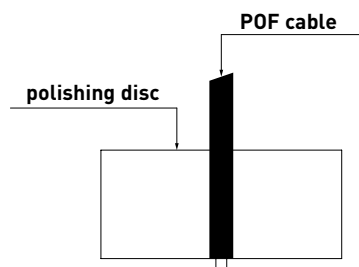

Fig. 1 - Polishing Disc with Guide for POF fibre
- Before crimping, insert POF fibre optic into the polishing disc (CLDL DD) as shown in Fig. 1.